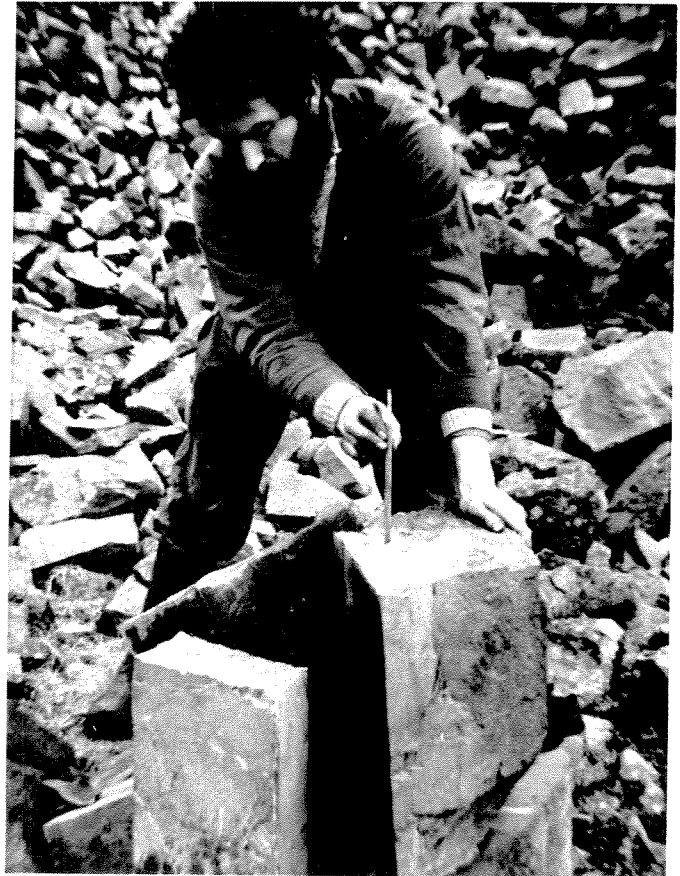

Figure 2.
Our results are best summarised by a graphical plot (See Fig. 3). Blasting ratio (BR) is the ratio of rock (target mass) to charge mass. Typical results are shown by the lower two pictures in Fig. 2.